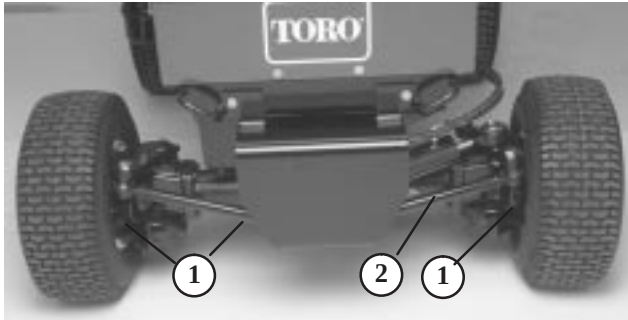

Figure 57
2. Clean area around the (3) drain plugs, (1) on each end and (1) in the center (Fig. 57).
2. Remove nuts securing one tie rod ball joint to mounting bracket on axle and disconnect ball joint from axle (Fig. 57).